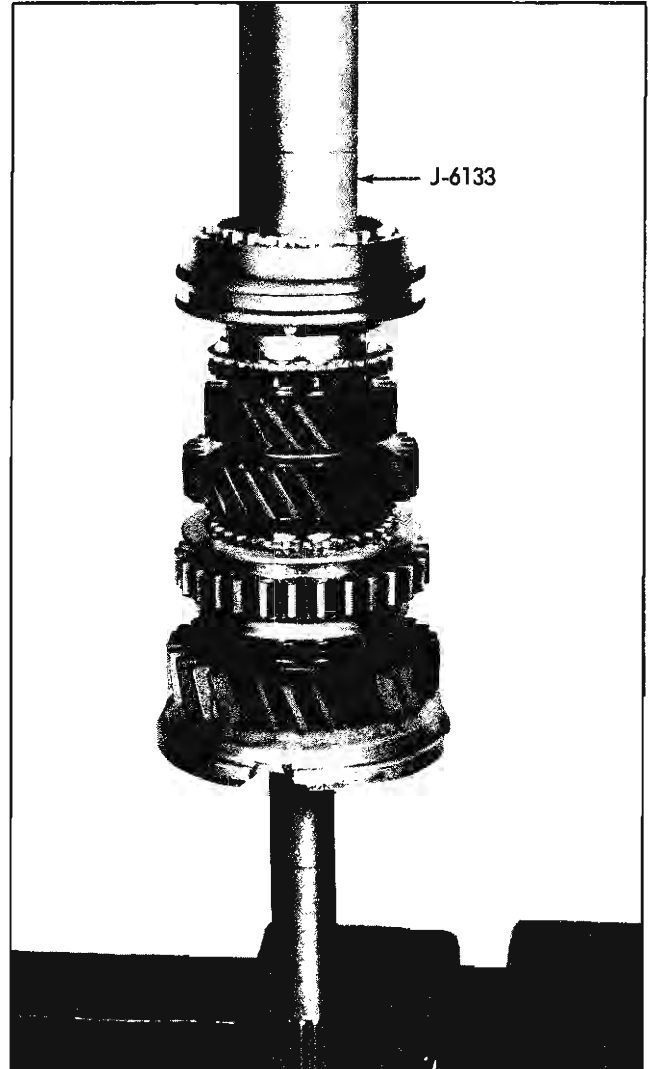

Fig. 7B-30 Installing 3-4 Synchronizer Unit
6. Install third speed gear, clutching teeth upward, onto mainshaft and seat it against the radial needle bearing (Fig. 7B-32).